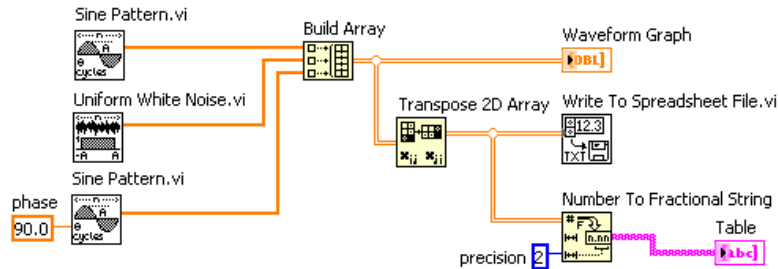

Figure 9.10
1. Display and examine the block diagram (Figure 9.10) for this VI.